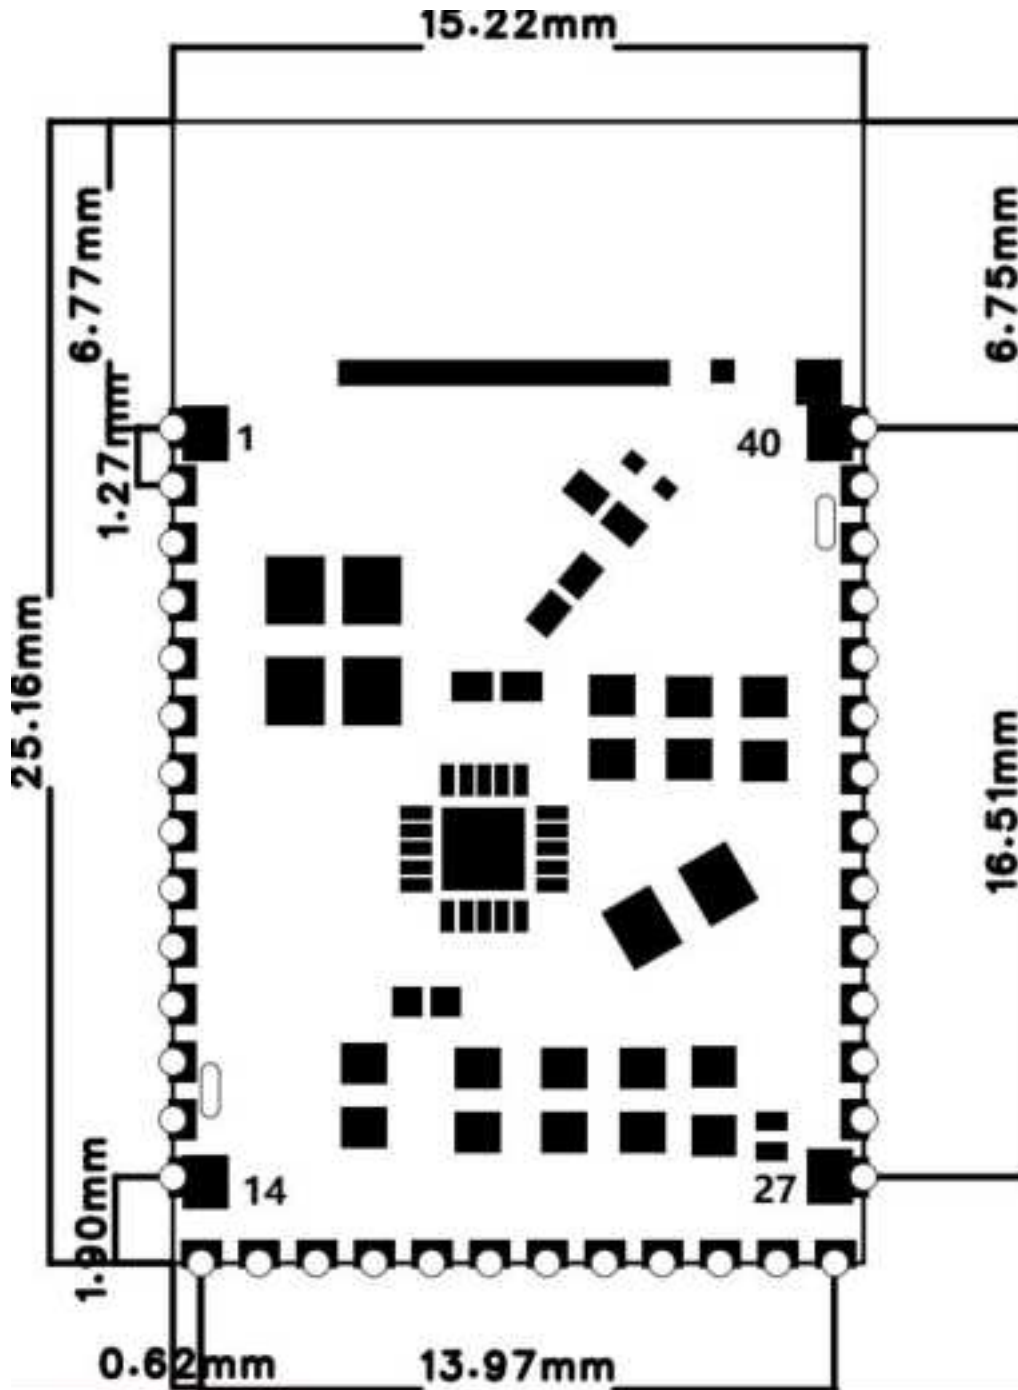

Figure 3-1
| 3.1 THE MODULE DIMENSIONS ARE SHOWN IN FIGURE 3-1 | 6 |
3.1 The module dimensions are shown in *Figure 3-1*.